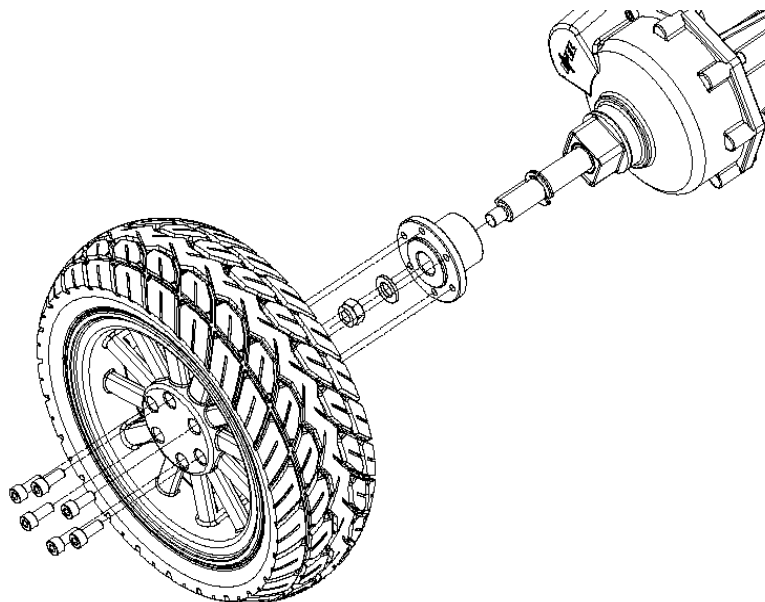

Figure 20: Removal of the wheel
4. Pull the wheel off the axle (Figure 20)